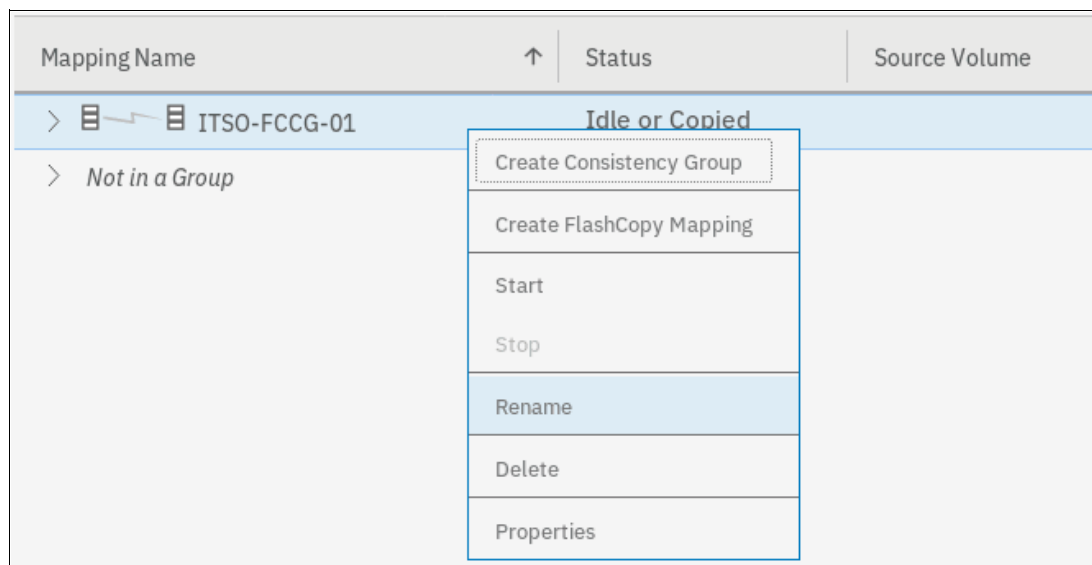

Figure 10-53 Renaming a consistency group
2. Right-click the consistency group you want to rename and select **Rename**, as shown in Figure 10-53.